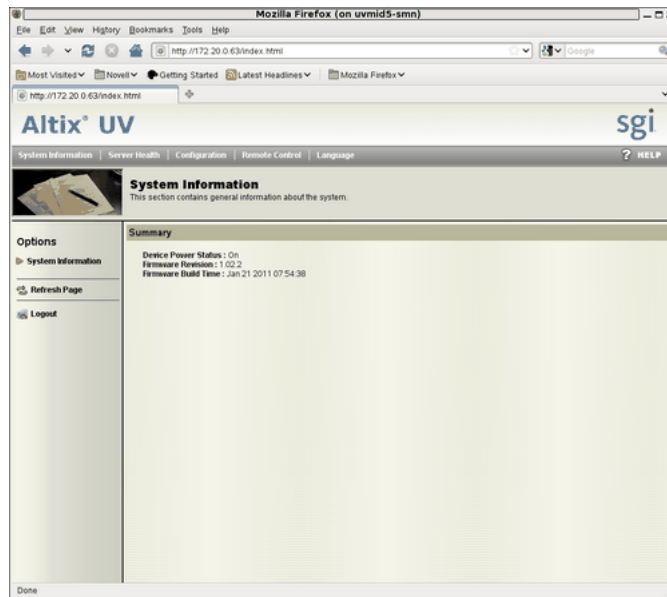

Figure 3-2 BMC System Information Screen
- The **System Information** screen appears, as shown in Figure 3-2 on page 39. Click on the **Remote Control** tab.